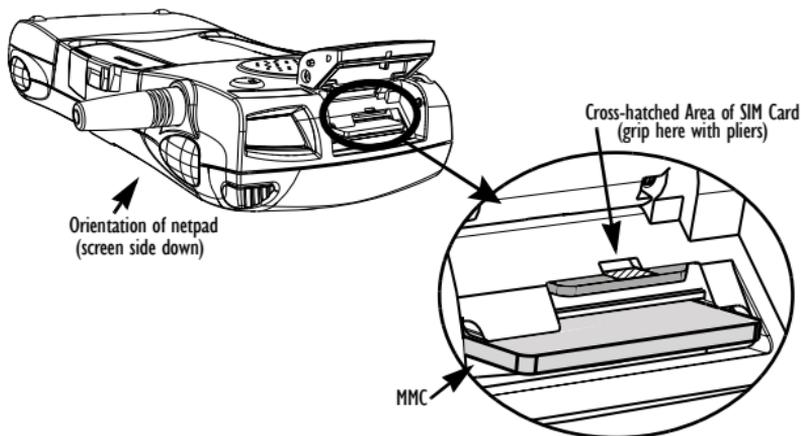

Figure 2.10 Removal Of SIM Card
- Open the card slot door and grasp the card on the cross-hatch area (see Figure 2.10), using the special removal tool supplied, a pair of tweezers, or long-nosed pliers. Pull the card out carefully.